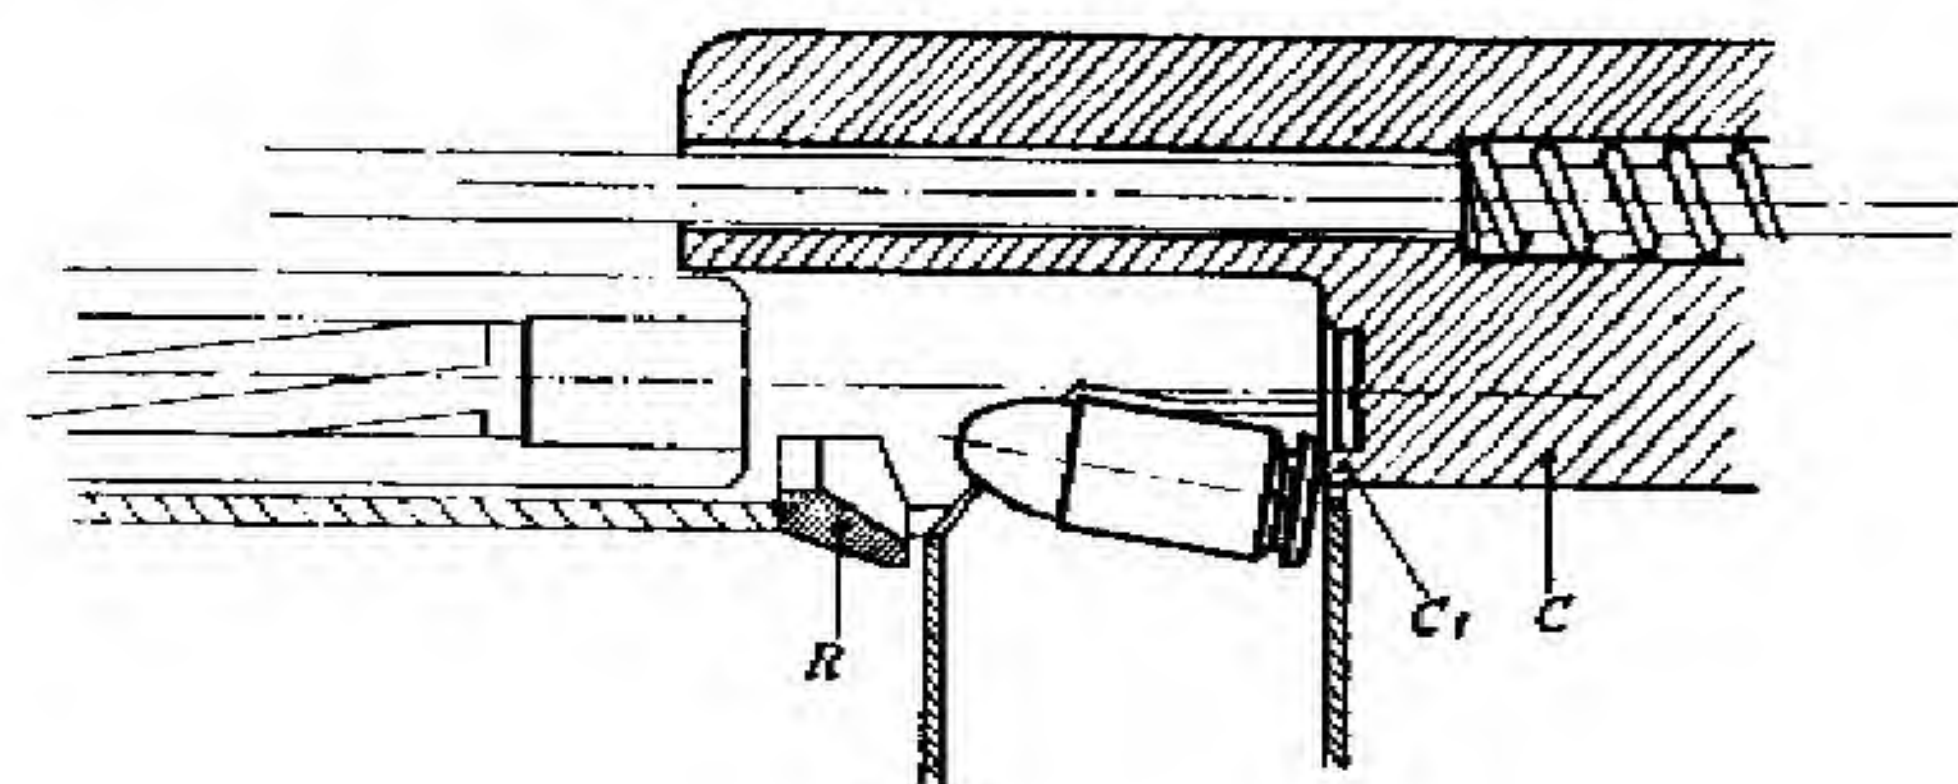

Fig. 6.
After moving forward about 25 mm, the underside (C 1) of the breech-block (C) contacts the base of the uppermost cartridge in the magazine (fig. 6) and pushes the round forward.